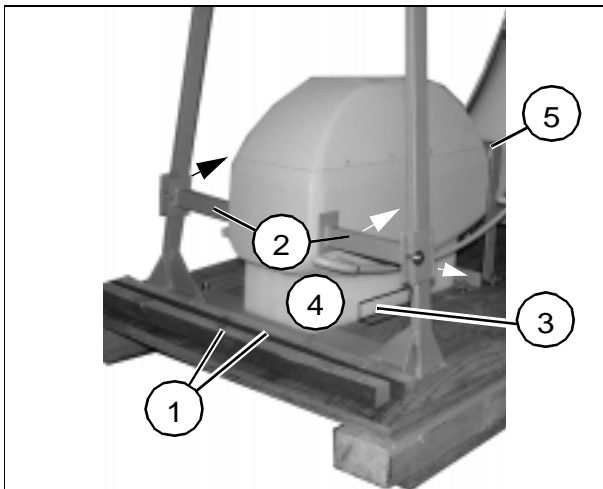

Fig. 4
- Remove the two wooden cross pieces (1/Fig. 4).
- Unscrew both retainer brackets (2/Fig. 4) and remove.
- Unscrew retainer brackets (3/Fig. 4) on both sides and remove.
- Push supporting block (4/Fig. 4) out sideways.
- Unscrew bracket (5/Fig. 4) and remove.